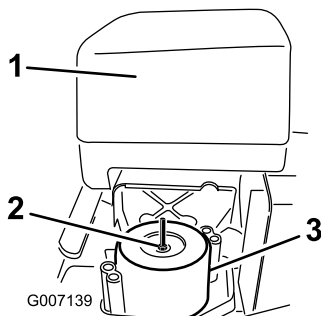

Figure 53
5. Remove the wingnut from the air filters and remove the filters (Figure 53).
2. Place the filter assembly onto the air cleaner base and secure it with a wingnut (Figure 53).